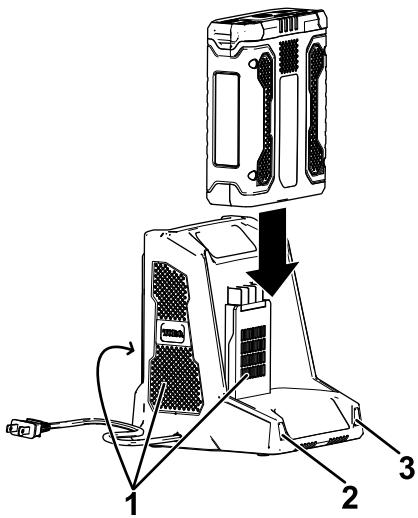

Figure 25
4. Slide the battery pack into the charger until it is fully seated (Figure 25).